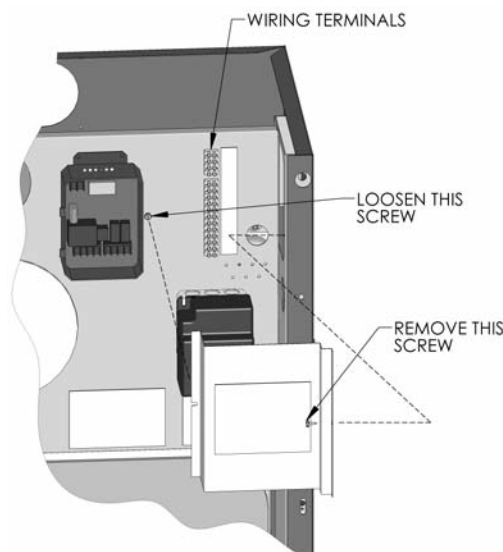

Figure 7.1: Electrical Terminal Access
2. The electrical terminals are located behind a panel located behind the PCABS upper front cover. With the plastic front cover removed, loosen the screw to the right of the boiler limit control then remove the screw on the right side of the access cover (See Figure 7.1).